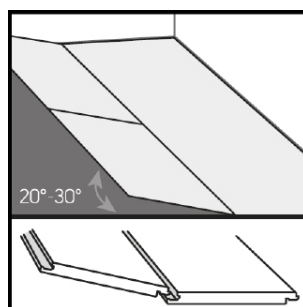
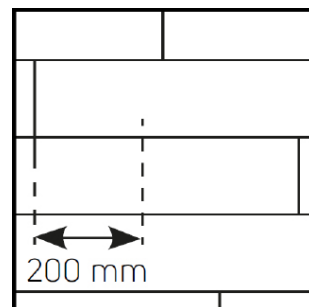
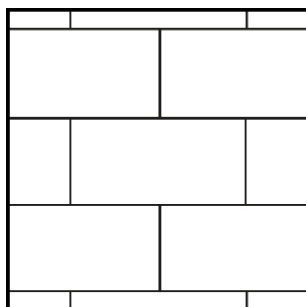

FIG 3
FIG 4A (Wood effect)
FIG 4B (tiles effect)
Such that four corners never meet. Refer to installation steps (5G®: Fig.4a / 4b, 2G™: Fig.4a / 4b).
- Start the second row by clicking the tongue into the groove holding the plank at an angle (approximately 30°), then tap the plank/tile firmly into the groove of the first row. Install the next plank/tile by easing the tongue and groove together on the long side (Fig. 3). Tiles and planks should be installed 'off-set' such that four corners never meet (Fig. 4a and Fig. 4b).